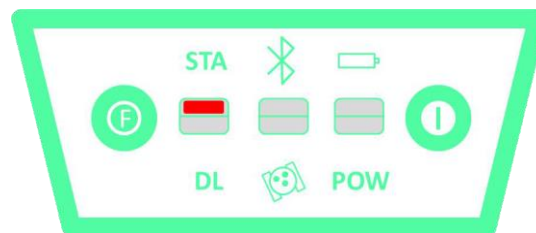

Fig. 2-11 Status Light
**STA (red):** Status light (Fig. 2-11)